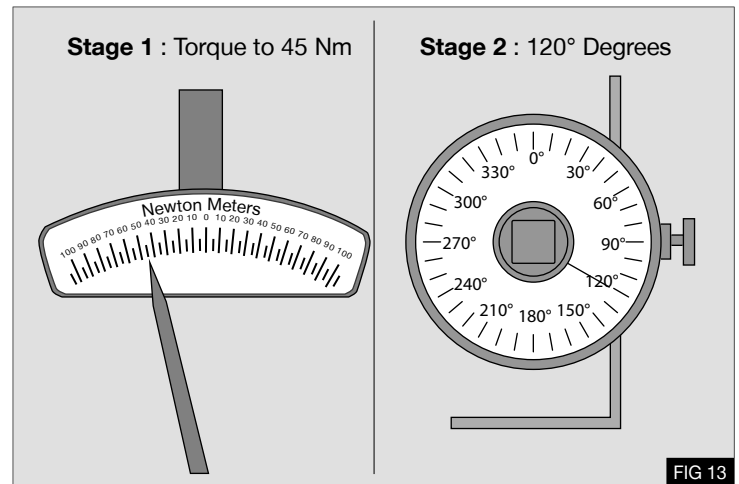

FIG 13
6. Lock the flywheel ring gear and tighten the bolts ⑩ in the following sequence. See Fig 13:
8. Torque the starter motor bolts ① to 25 Nm using a calibrated torque wrench.